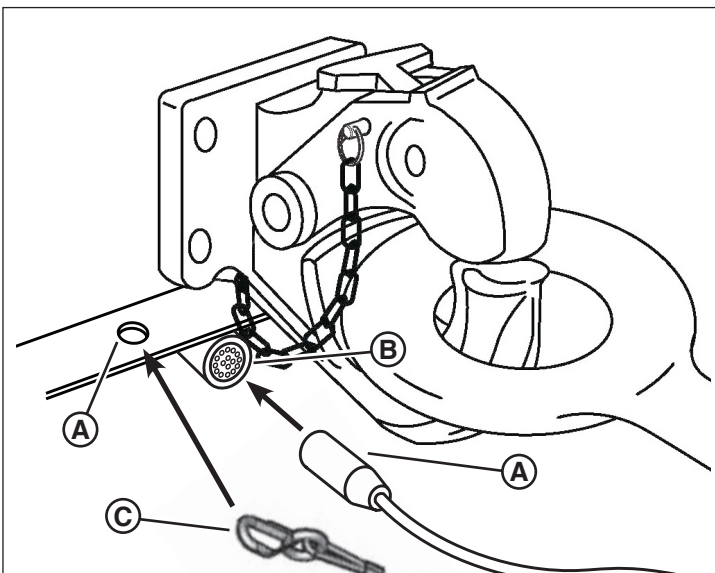

Figure 8
7. Connect the trailer lighting connector (**A**, Figure 8) to the tow vehicle's connector (**B**). Make sure the trailer lighting harness has adequate length to prevent disconnection when turning, but not so much length that the harness will contact the road surface. Check the stop, turn signal, tail, side marker and license plate lamps for proper operation.
8. Connect the break-away brake switch cable (**C**, Figure 8) to the tow vehicle (**D**). See 'Break-Away Brake System' for detailed information on the break-away brake system.
*NOTE: Some break-away brake switch cables feature a carabiner that hooks to the safety chain pocket. Refer to Figure 8.*